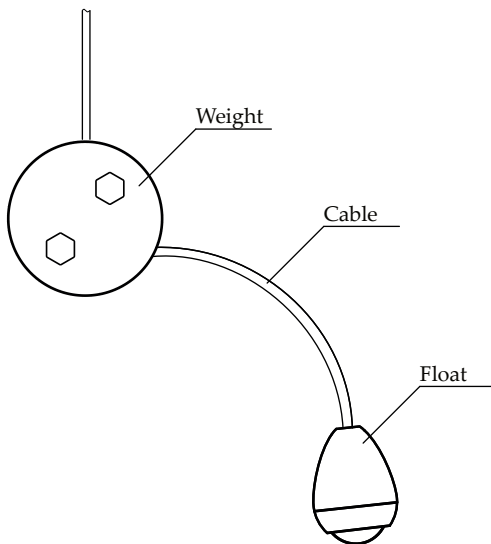
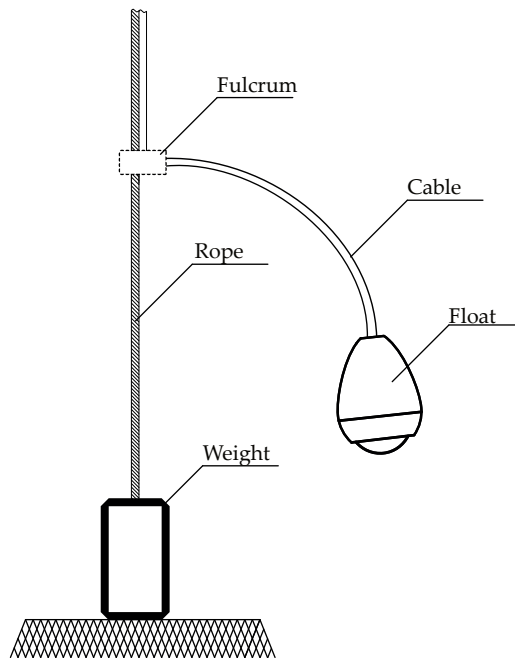

Fig.2 Example 1
Fig.3 Example 2
3. The weights need to be assmenble with EHFR-1x6S. Please note the weight is special accessories. If you need the weight, please let us know or buy a weghit yourself. For your infromation, the samples of assembling EHFR-1x6S with weigt are Fig.2 and Fig.3